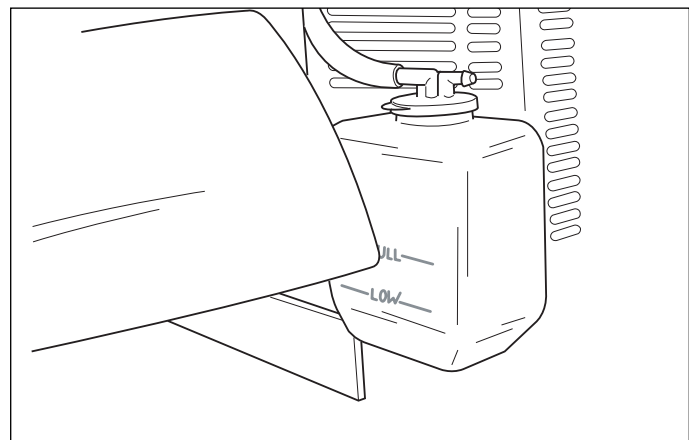

Figure 20. Radiator Overflow Bottle
3. Check the coolant level in the radiator overflow bottle (Figure 20). If coolant level is low, add coolant until level is at the "FULL" line. Proper coolant mix is a 50/50 mixture of ethylene glycol and distilled water. See engine owners manual for engine coolant specifications.